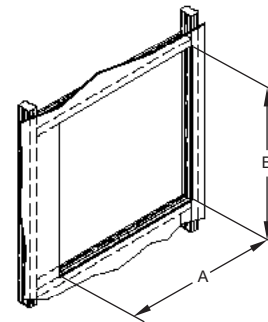

FIG. 7
1. Locate the area where the chimney section is to penetrate the vertical wall. Cut and frame an opening so that the flue is centered between the vertical wall studs on 6", 7", 8", 10" and 12" systems. Frame opening per FIG. 7 and TABLE 2.